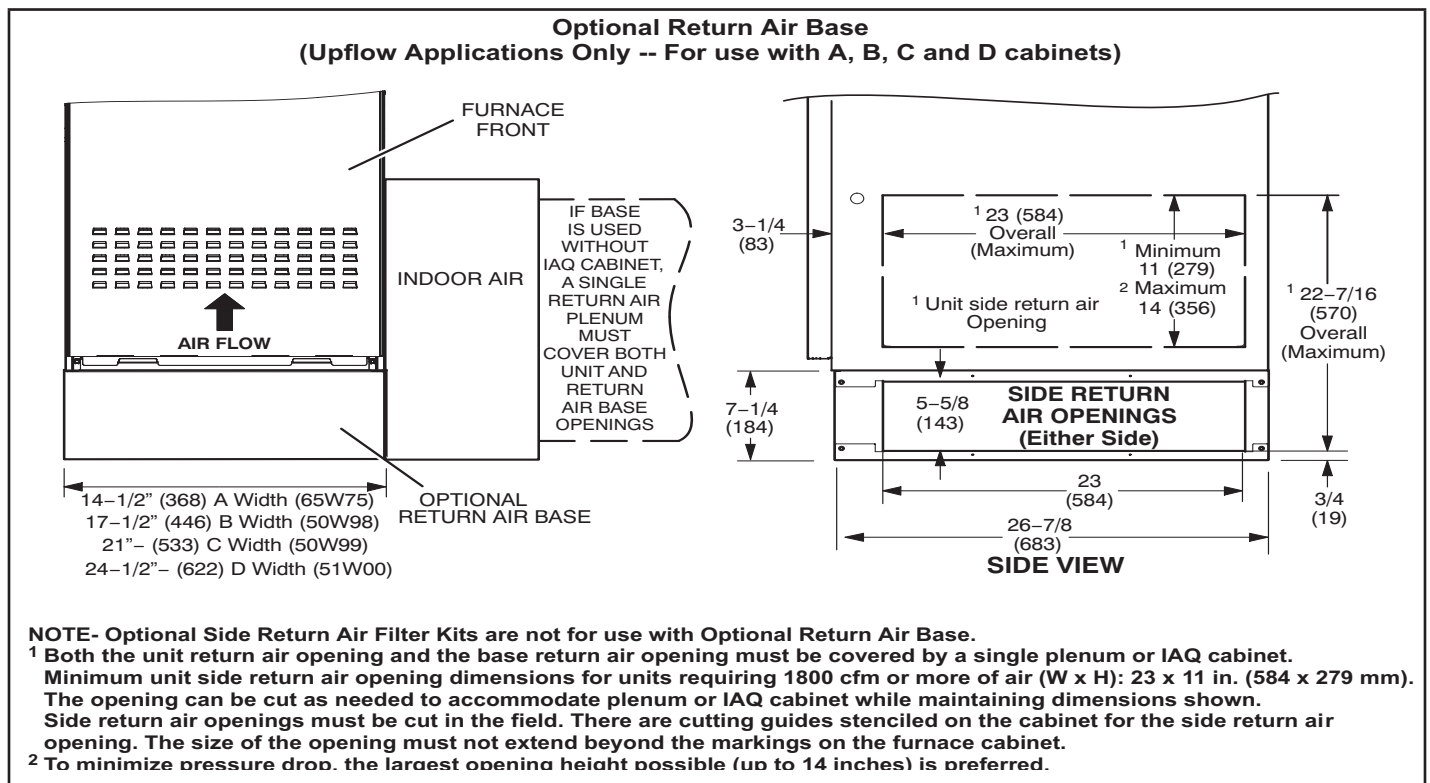

FIGURE 9
- 2 - Single side return air with optional return airbase. See figure 9.